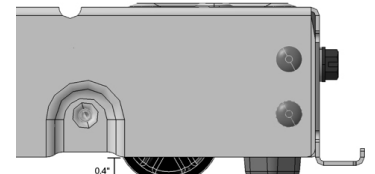

Fig. 7
- Attach the remaining Leveler Assembly as described in the previous 3 steps. With the unit still on its back, adjust all leveling wheels to approximately the orientation in Fig. 7.